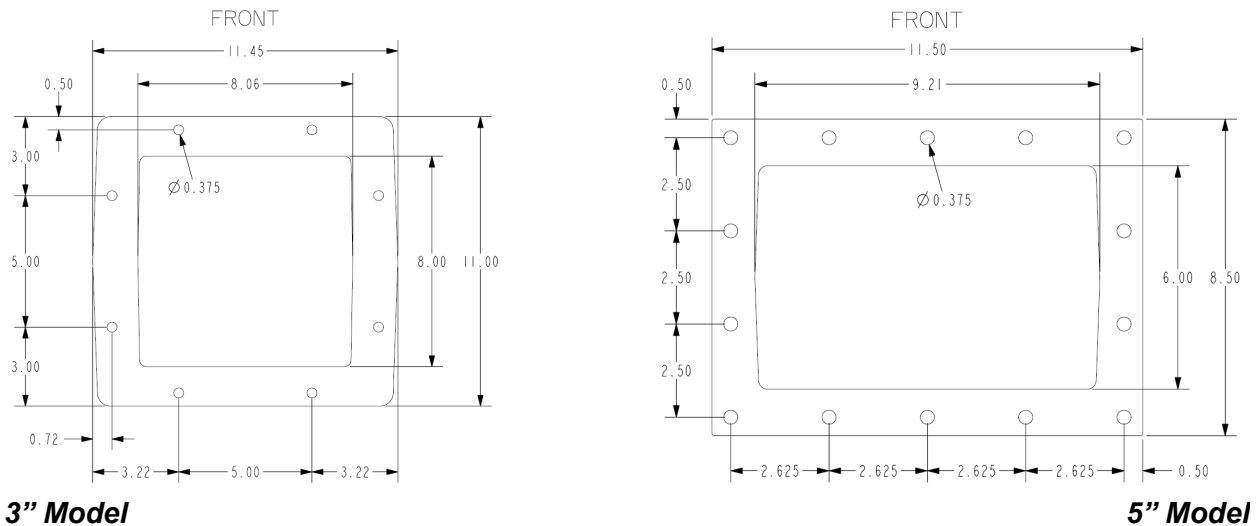

Figure 16: Dustless cyclone mounting dimensions
3. Create an opening in the roof to allow for the mounting of the DDC. Reference **Figure 16** for the dimensions of the DDC mounting surface. All dimensions shown are in inches.